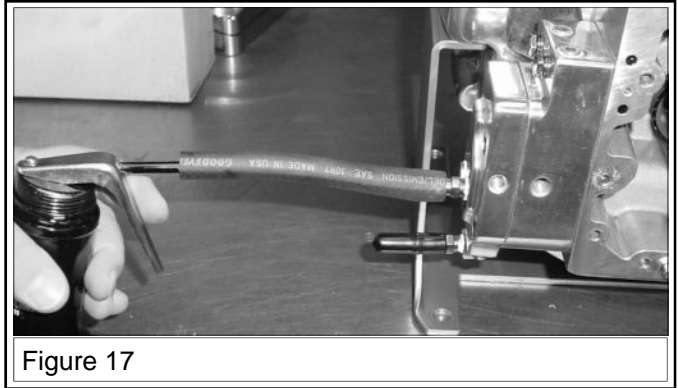

Figure 17
29. Immediately before initial startup, connect a section of 3/8" hose to the feed line inlet fitting on the oil pump cover (Figure 17.) TP oil pumps are not self-priming and will not gravity bleed.